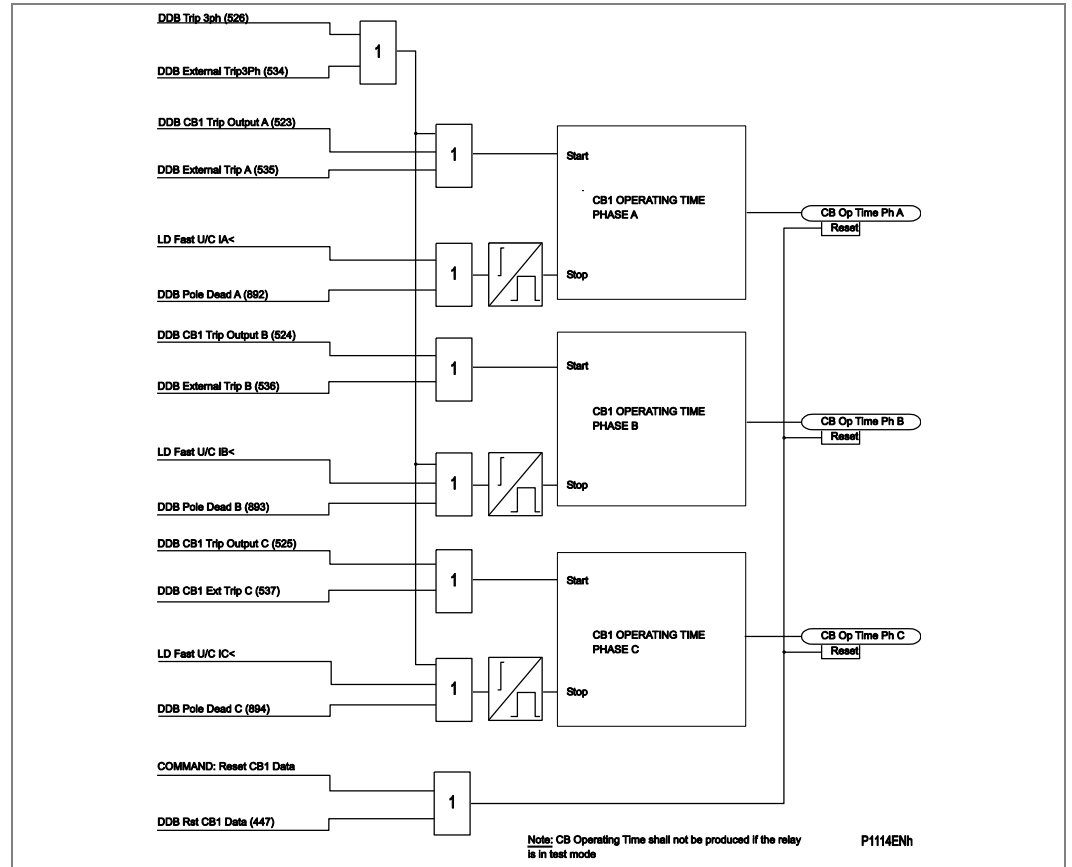

Figure 12 - CB1 condition monitoring – operation time
- Figure 12 - CB1 condition monitoring – operation time